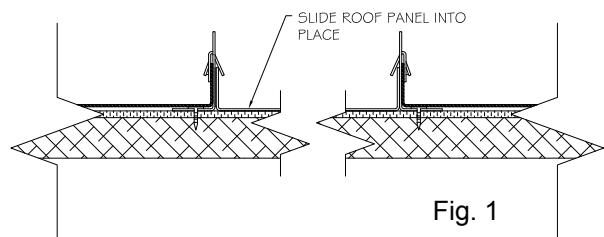

Fig. 1
3. Slide the panel into the corresponding numbered locations—See Fig 1